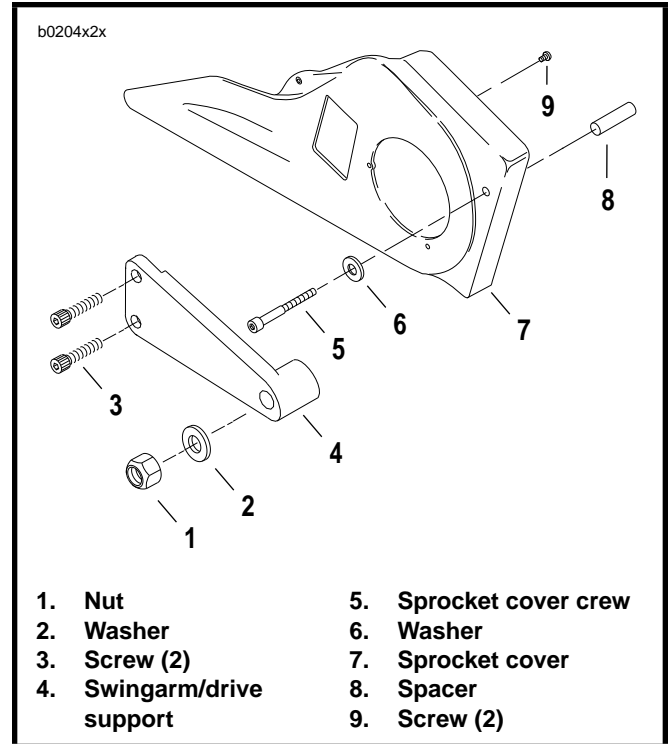

Figure 2-60. Sprocket Cover
1. See Figure 2-60. Remove nut (1) and washer (2).
2. Remove two screws (3).
3. Remove sprocket cover screw (5), washer (6) and spacer (8).
4. Remove swingarm drive/support (4) and sprocket cover (7) as an assembly.
5. Remove two screws (9) to separate sprocket cover from swingarm/drive support.
1. See Figure 2-60. If removed, attach sprocket cover to swingarm/drive support with two screws (9). Tighten screws to 12-17 in-lbs (1.4-1.9 Nm).
2. Install sprocket cover assembly with screw (5), washer (6) and spacer (8). Tighten screw to 4-6 ft-lbs (5.4-8.6 Nm).
3. Install screws (3). Tighten to 20-25 ft-lbs (27.1-33.9 Nm).
4. Install nut (1) and washer (2). Tighten nut to 30-35 ft-lbs (40.7-47.4 Nm).